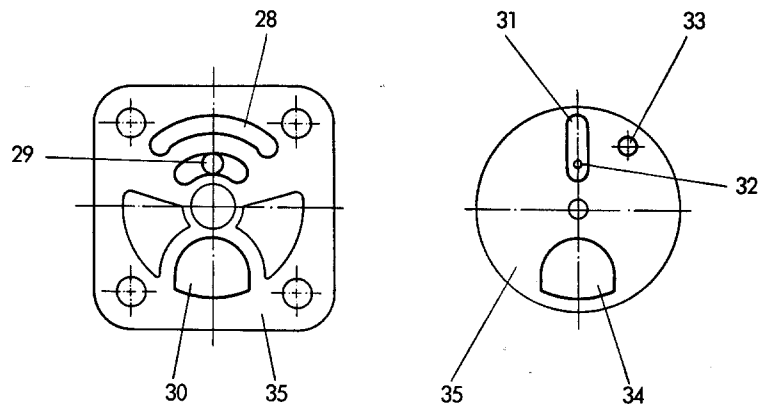

Fig. 07-0/12
Through a graded bore in the fuel canal (18) the pre-mixture enters the starter mixing chamber (27) behind the rotary slide valve via the fuel slot (28) in the starter flange and the graded bore (33) in the slide valve (Figs. 07-0/12 and 07-0/13).